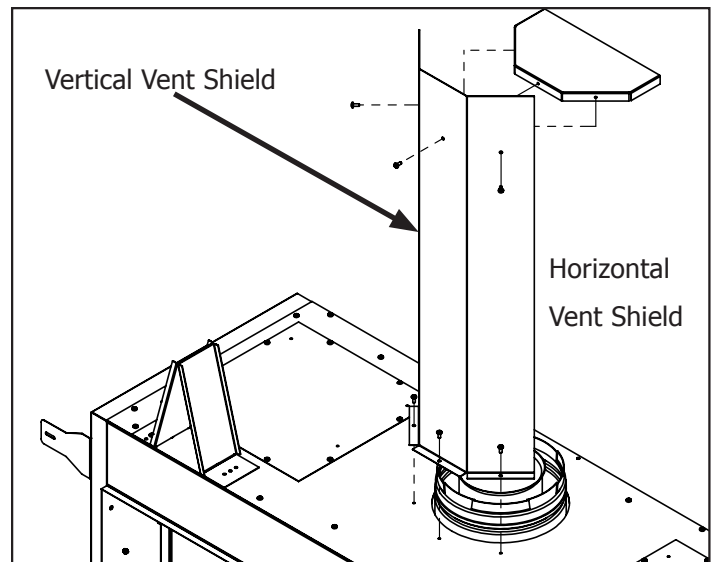

Figure 33. Vent Shielding Install
**IMPORTANT:** All installations must include the vertical vent shield. The horizontal vent shield is only installed if the fireplace is horizontally terminated with the minimum vertical rise of 12". If more than 12" of vertical rise is used in the vent configuration no horizontal shield is needed. See Figure 33 for shield install. Screws are pre-installed in cabinet and horizontal vent shield. Use a T-20 screwdriver or drill driver to remove screws then install shields.